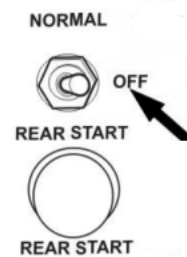

FIGURE 26
38. Press the starter push-button switch (FIGURE 26). Release push-button after the engine starts. Check for leaks and proper operation. To check proper operation, use PTT VGT function test, Operation 2551-08-03-02.